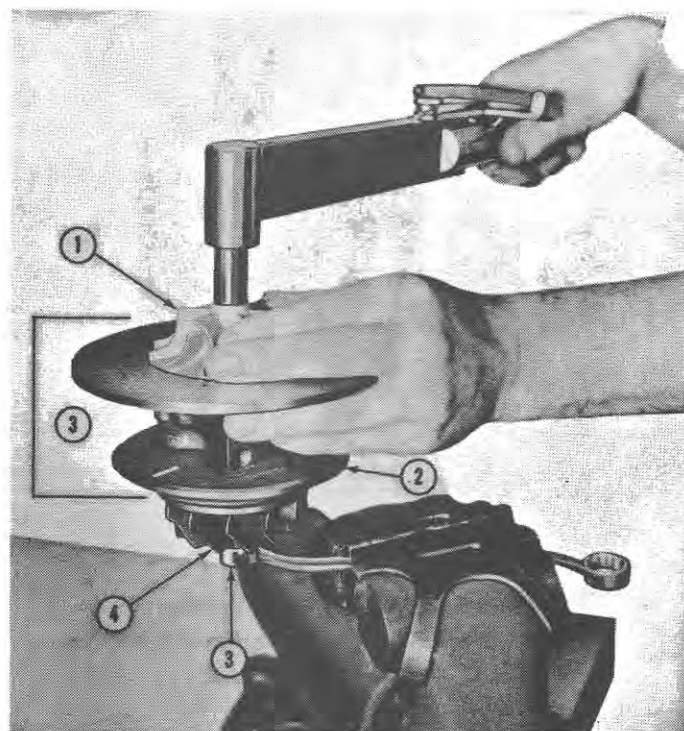

Figure 11
12. Clamp a 5/8 inch twelve-point box end wrench in a vice, as shown in Figure 11, and position the hub of the turbine wheel in the wrench socket.
13. Coat the threads and the flat shoulder of a new lock nut with graphite grease. Install the lock nut to secure the compressor wheel, as shown in Figure 11, using a 1/2 inch socket and a lbs. in. torque wrench. Tighten the nut to a torque of 156 lbs. in. (1.794 kgm).